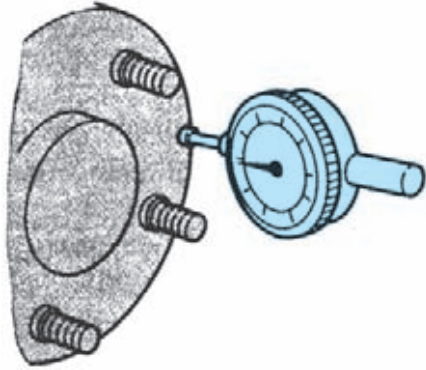

FIGURE 12-12 This dial indicator is set up to measure axle flange lateral runout, which can cause the wheel to wobble. (Courtesy of Ford Motor Company)
4. Check flange lateral runout by mounting a dial indicator onto the axle housing or brake assembly and positioning the indicator stylus against the axle flange just outward of the wheel studs (Figure 12-12). The stylus should be positioned parallel to the axle.